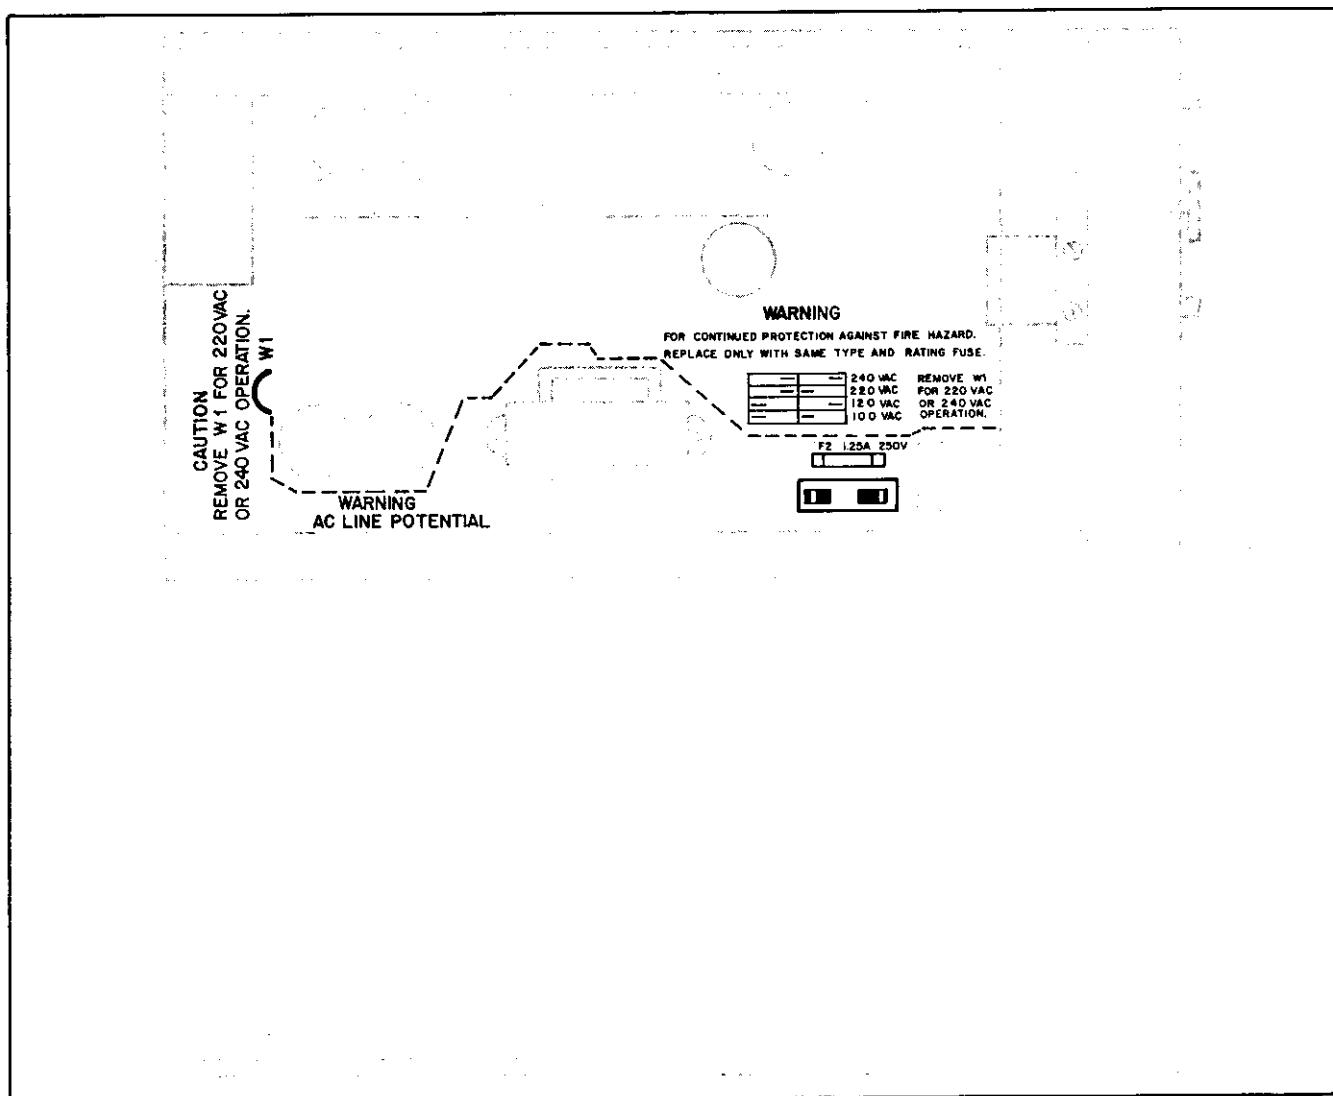

Figure 2-3. Line Voltage Selection Components
b. The line voltage select switch is located just to the right of center of the instrument (as viewed from front), about five inches behind front panel (see Figure 2-3). Use a small-blade screwdriver to set the two switch sections to match the pattern silkscreened on p.c. main board as shown in Figure 2-3. For example, to set switches for 120V operation (as
c. The line voltage jumper W1 is located about 2-1/2 inches in front of rear-panel terminal block (see Figure 2-3). (A dashed line is silkscreened on A3 board from vicinity of S2 to W1). Jumper must be soldered in place for 120V operation, and *must be removed for 220V or 240V operation*.